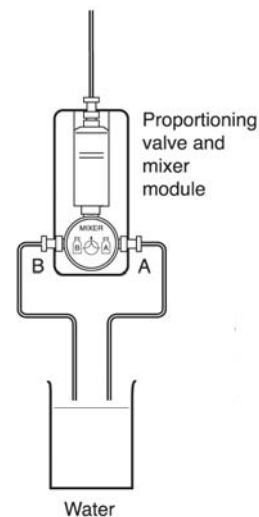

Figure 7.2. Inlet tubing for the mixer, immersed in water.
1. Verify that the buffer inlet lines for Buffer A and Buffer B are submerged in a container of 500 ml of high-quality water (Figure 7.2). Make sure that the tubing goes all the way to the bottom of the container since it is important to not pull air into the tubing.
Initially you will be running water through the system. The water will be run through all the tubing starting at both the A inlet and B inlet to the mixer/proportioning valve (Figure 7.2) and from there through the UV detector, the conductivity detector and then to waste. This is called purging the system since buffer or storage solution in the system will be flushed out along with any air bubbles. First, you will draw water up only through the A inlet tubing, and then you will learn how to change which inlet the pump draws fluid from by changing to the B inlet. At the end of the purging phase, the entire fluidics system will be filled with water and there should be no air bubbles in any of the lines.